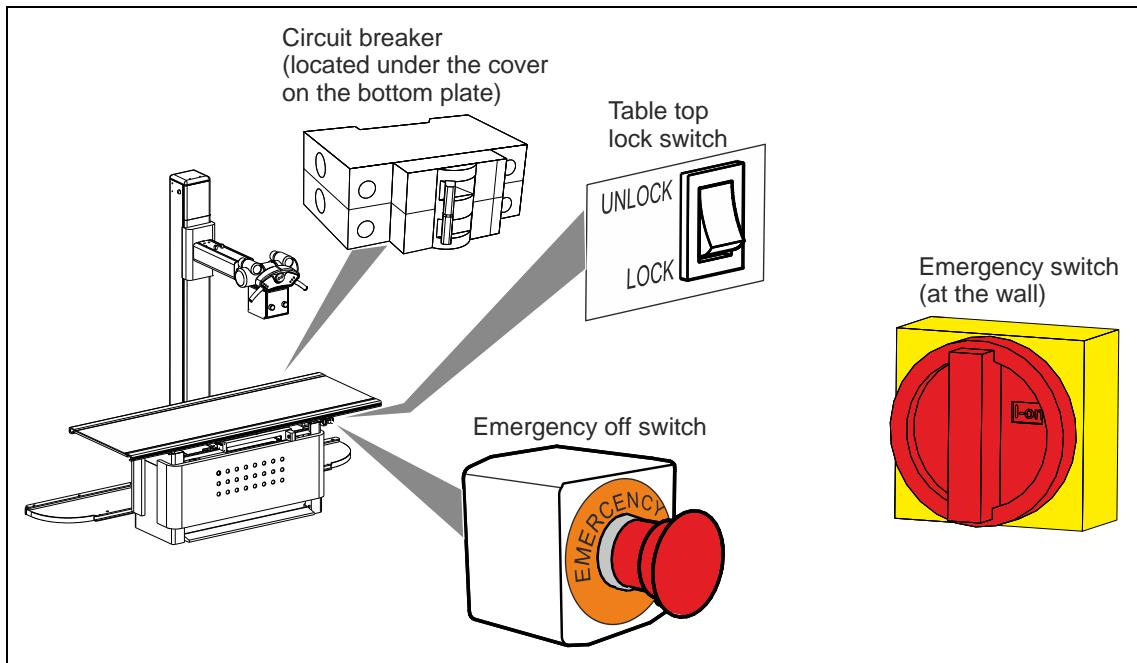

Figure 4
- The Table and the Wallstand are OFF when the emergency off switch is pressed or when the touch screen console is OFF. Refer to Figure 4.
The emergency switch is located on the wall of the examination room at a well accessible place. Refer to Figure 4.
The Table includes a protective circuit breaker. This breaker should remain in ON position to allow Table operation. Refer to Figure 4.
This security switch disables Table-top horizontal movement avoiding any unexpected Table-top motion. Refer to Figure 4.